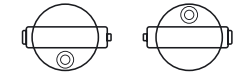

Figure 6
a) Adjust the lifting screws to center the bubble vial and rotate the telescope by 180°. The bubble vial should remain in the center (Figure 6).